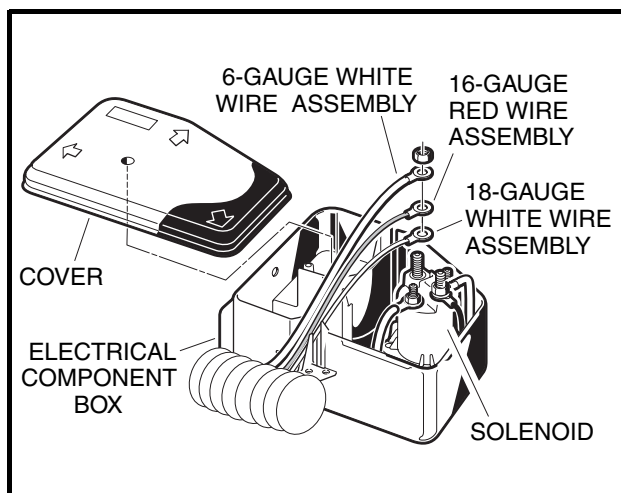

Figure 11-11 Remove Solenoid Wires
6. Remove the wires from the large post of the solenoid. Do not allow the wires to touch the frame or other components of the vehicle (**Figure 11-11, Page 11-14**).